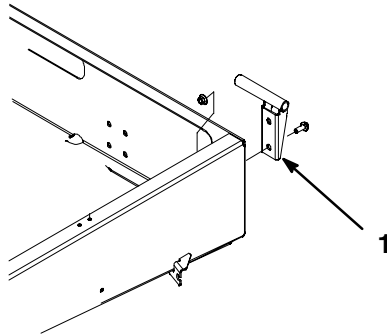

Figure 8
2. Mount the left hand pivot bracket to the left rear corner of the frame with (2) 3/8 x 1" capscrews. Position the bracket as shown in Figure 8.